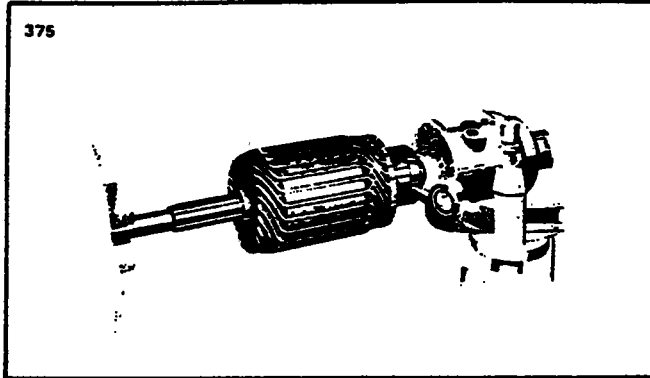

Figure 11-48. Turning Starting Motor Commutator
a. Check the commutator for uneven wear, excessive glazing or evidence of excessive arcing. If only slightly dirty, glazed or discolored, the commutator can be cleaned with 00 or 000 sandpaper. If the commutator is rough or worn, it should be turned in a lathe. Refer to Figure 11-48. The armature shaft should be inspected for rough bearing surfaces and rough or damaged splines.